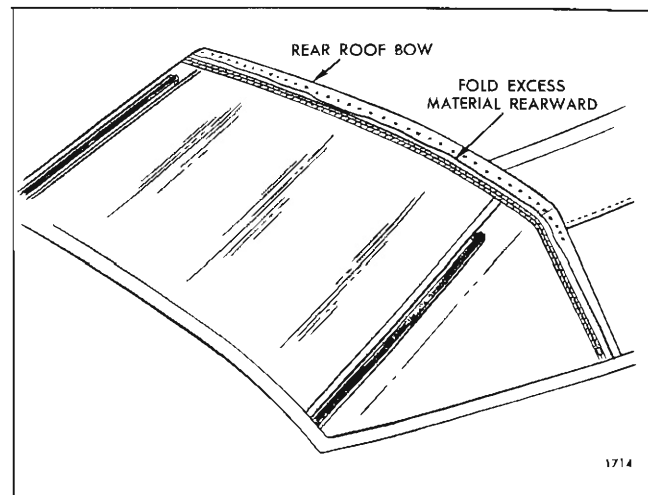

Fig. 2-I-16 — Back Curtain Installation at Rear Roof Bow
17. Where required, place reference chalk mark on outer surface of back curtain along pinchweld finishing molding. Re-adjust back curtain assembly as required. (Fig. 2I17).